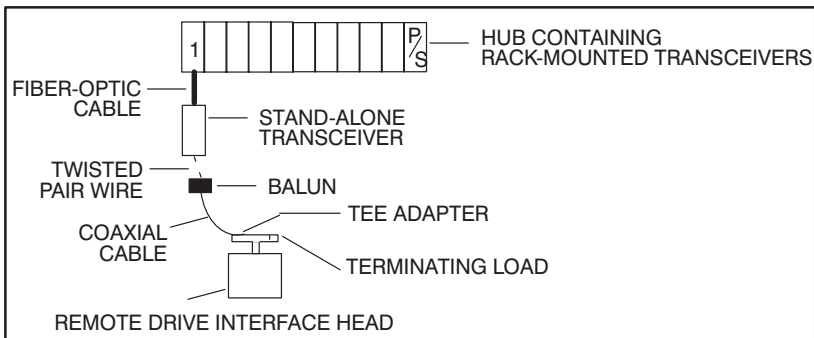

Figure 3.23 - Connecting the Remote Drive Interface Head to the Fiber-Optic Network
Step 9. To connect the module to a fiber-optic network, a twisted-pair-to-coax balun (AMP 555053-1 is recommended) is used to convert the cable between the module and the transceiver as shown in figure 3.23. The balun is connected to the module via the BNC Tee Adapter. Note that a 75 ohm terminating load (M/N 45C71) is required. Refer to figure K2.2 in Appendix K and connect the twisted pair wire to the transceiver. Continue to step 10.